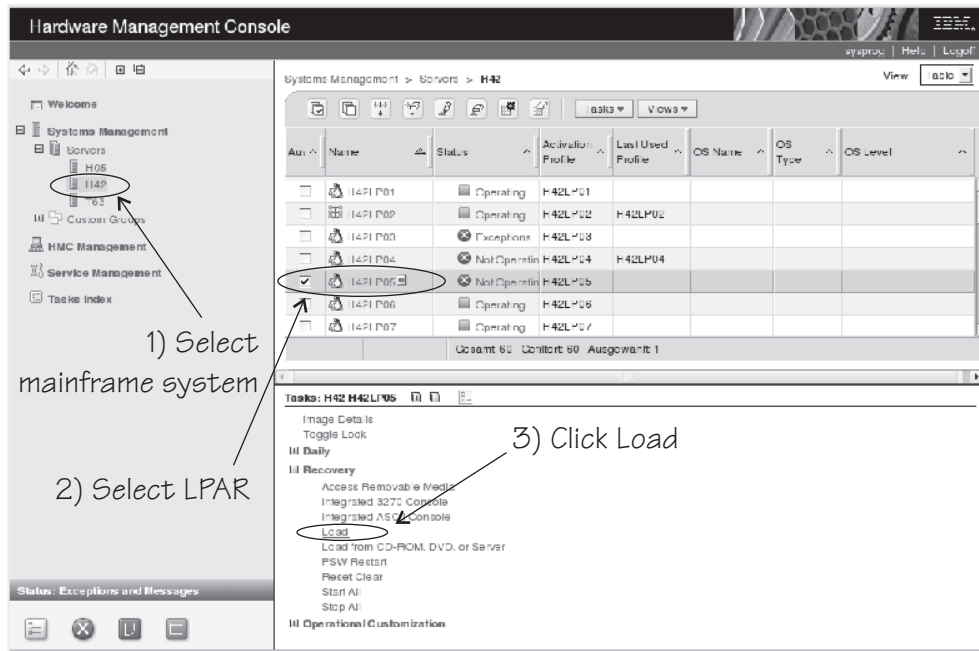

Figure 91. Load task on the HMC
3. In the **Tasks** area, expand **Recovery** and click **Load** (see Figure 91 on page 364).